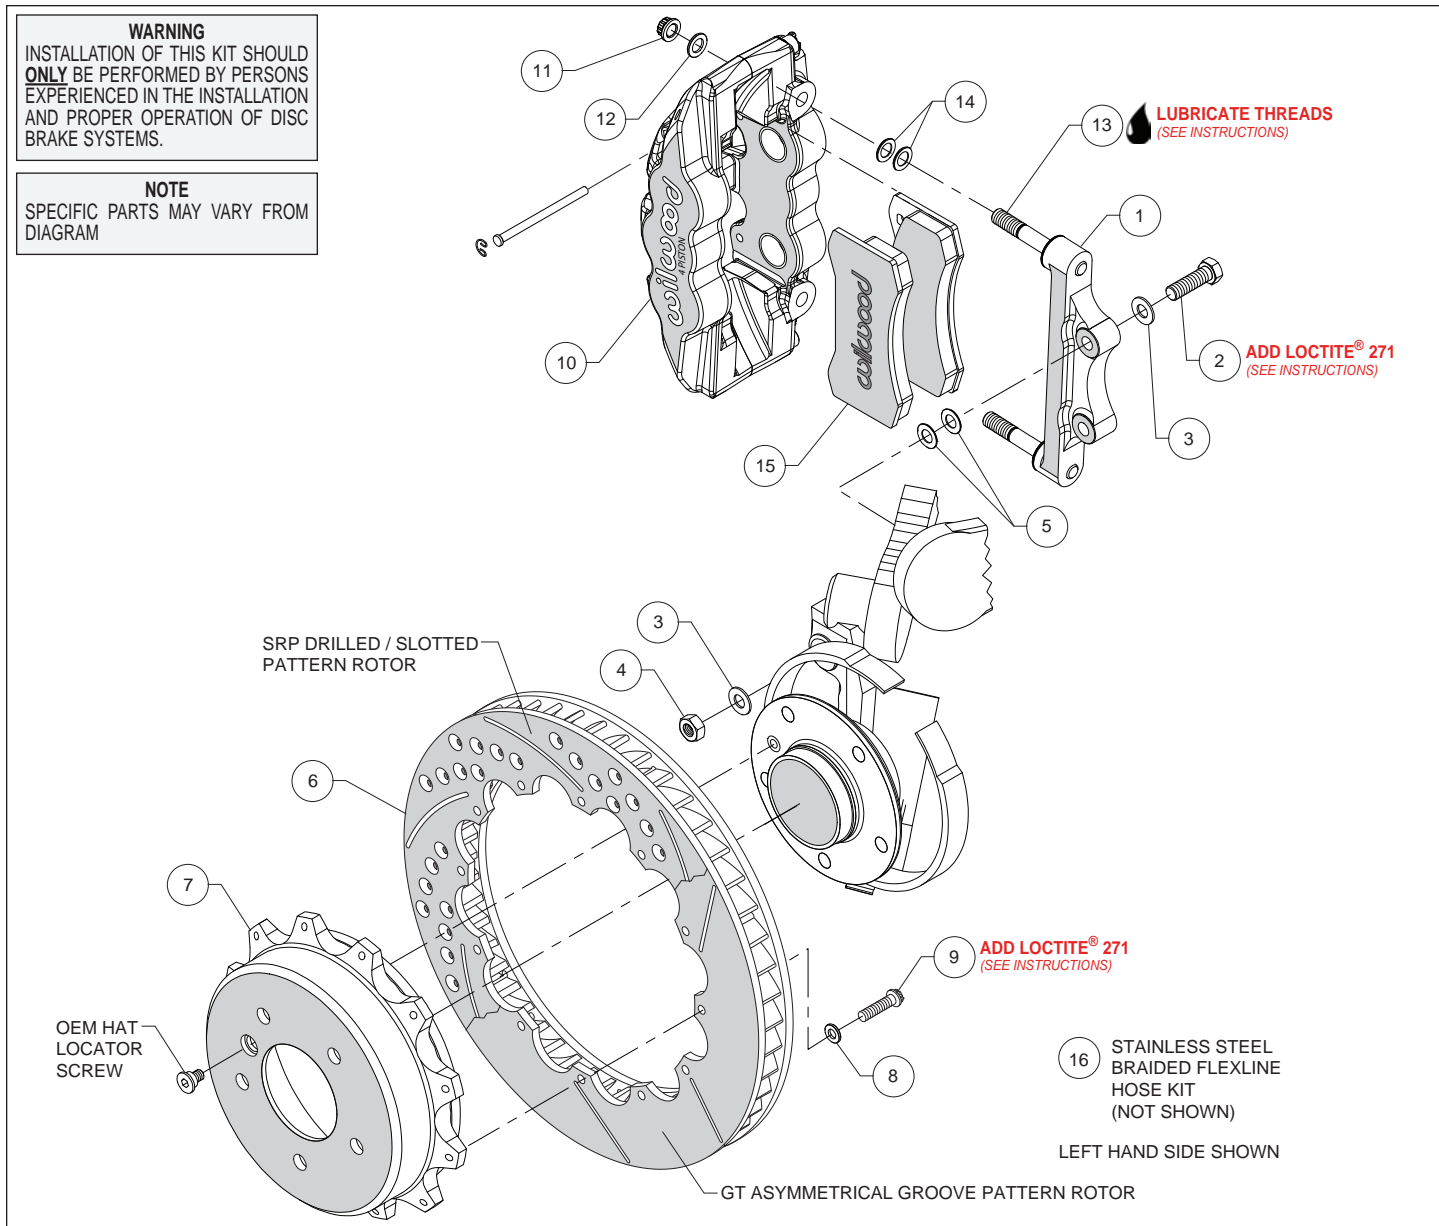
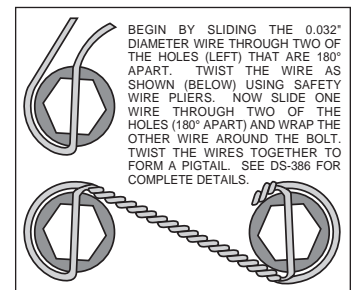

Figure 1. Typical Installation Configuration
Figure 3. Safety Wire Diagram
**Assembly Instructions** (numbers in parenthesis refer to the parts list and Figure 1 on the preceding pages):
- The caliper mount bracket (1) should initially be installed with clean, dry threads on the mounting bolts. Orient the bracket as shown in Figure 1, and Photo 2, and install using washers (3), bolts (2), and nuts (4). Initially place two .030" thick shims (5) on each bolt between the bracket and upright, Figure 1. Temporarily tighten the mounting bolts. **NOTE:** *The bracket must fit squarely against the mount bosses on the upright.* Inspect for interference from casting irregularities, machining ridges, burrs, etc. Later, after the caliper alignment has been checked, the mount bolts will be secured using red *Loctite*® 271.
- Orient the rotor (6) and the hat (7) as shown in Figure 1 and Photo 3. Attach rotor to hat using bolts (9) and washers (8). Using an alternating sequence, apply red *Loctite*® 271 to the threads, and torque to 140 **in-lbs**. For an added measure of security, the bolts may be safety wired using standard 0.032 inch diameter stainless steel safety wire as shown in Figure 3. Please refer to Wilwood's data sheet DS-386 (available at [www.wilwood.com/Pdf/DataSheets/ds386.pdf](http://www.wilwood.com/Pdf/DataSheets/ds386.pdf)) for complete safety wire installation instructions.
- Lubricate the caliper mounting studs (13) with lightweight oil. Initially place two .030" thick shims (14) on each stud as shown in Figure 1 and Photo 4. Mount the caliper (10) onto the bracket (1) using lock nuts (11) and washers (12), Figure 1. Temporarily tighten the lock nuts and view the rotor through the top opening of the caliper. The rotor should be centered in the caliper, Photo 5. If not, adjust by adding or subtracting shims (5) between the bracket and the upright. Always use the same amount of shims on each of the two mounting bolts. Once the caliper alignment is correct, remove the bracket mounting nuts (4) one at a time, apply red *Loctite*® 271 to the threads, and torque to 40 ft-lb.
- Remove the two pad retaining pins from the caliper by carefully popping out the pin retaining clips and sliding out the pins. Insert the brake pads (15) into the caliper from the bottom, Figure 1, and Photo 6, with the friction material facing the rotor and secure the brake pads in place with the pad retaining pins and clips, Photo 7. Reinstall the caliper onto the caliper mounting bracket and temporarily tighten the lock nuts. Check that the top of the brake pad is flush with the outside diameter of the rotor, Photo 8. If not, adjust by adding or subtracting shims (14) between the caliper and the bracket. After the caliper pad height is set, torque the caliper lock nuts (11) to 47 ft-lb.